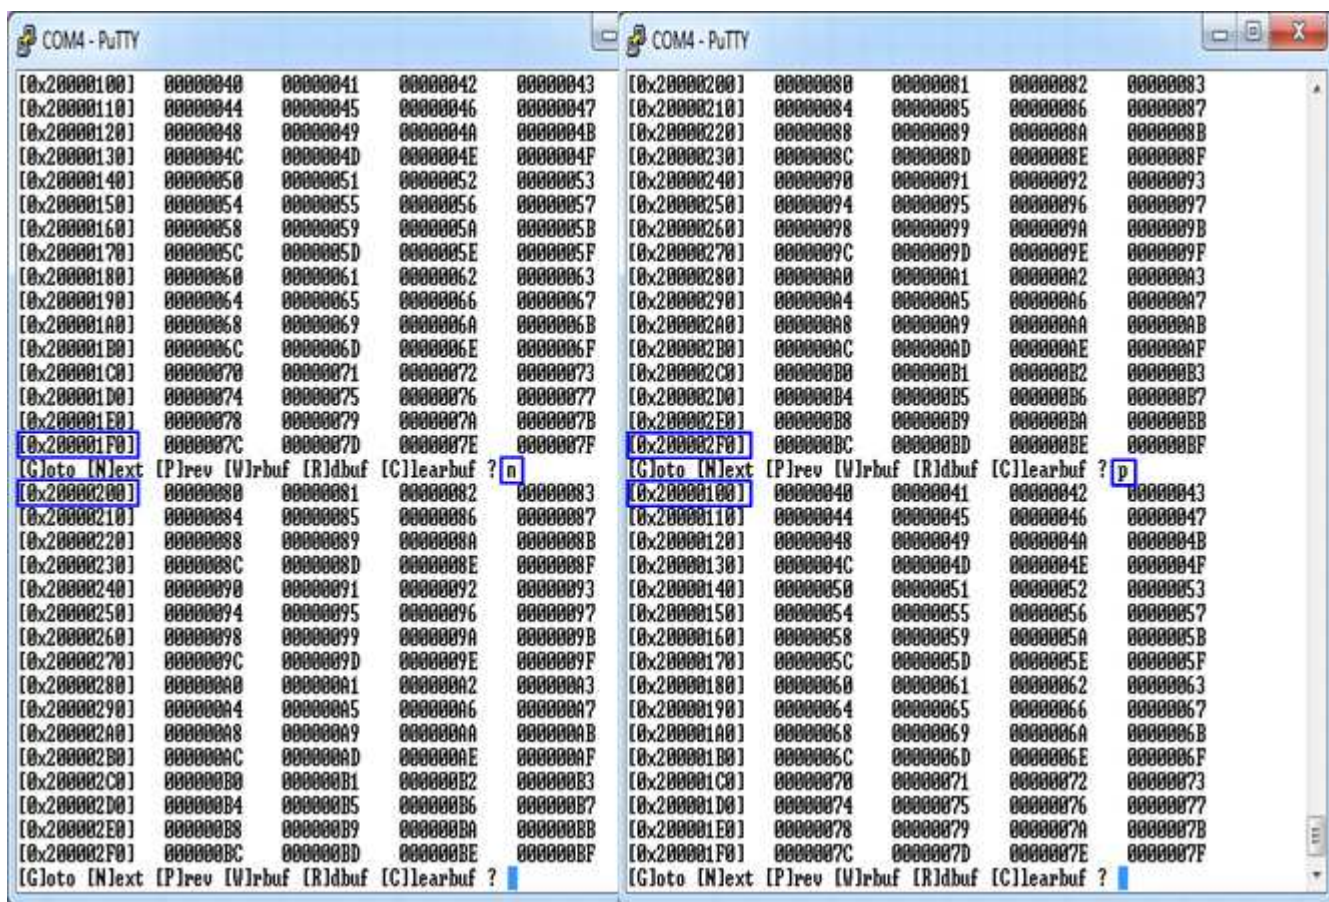

Figure 3-9 Read Next/Previous 256 byte data in buffer
- 'N': this submenu is used to read next 256 byte data in buffer, as shown in Figure 3-9.
- 'P': this submenu is used to read previous 256 byte data in buffer, as shown in Figure 3-9.